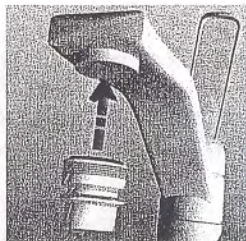

Fig. 1
Step 2: Install the aerator furnished with your unit. See Fig. 1.